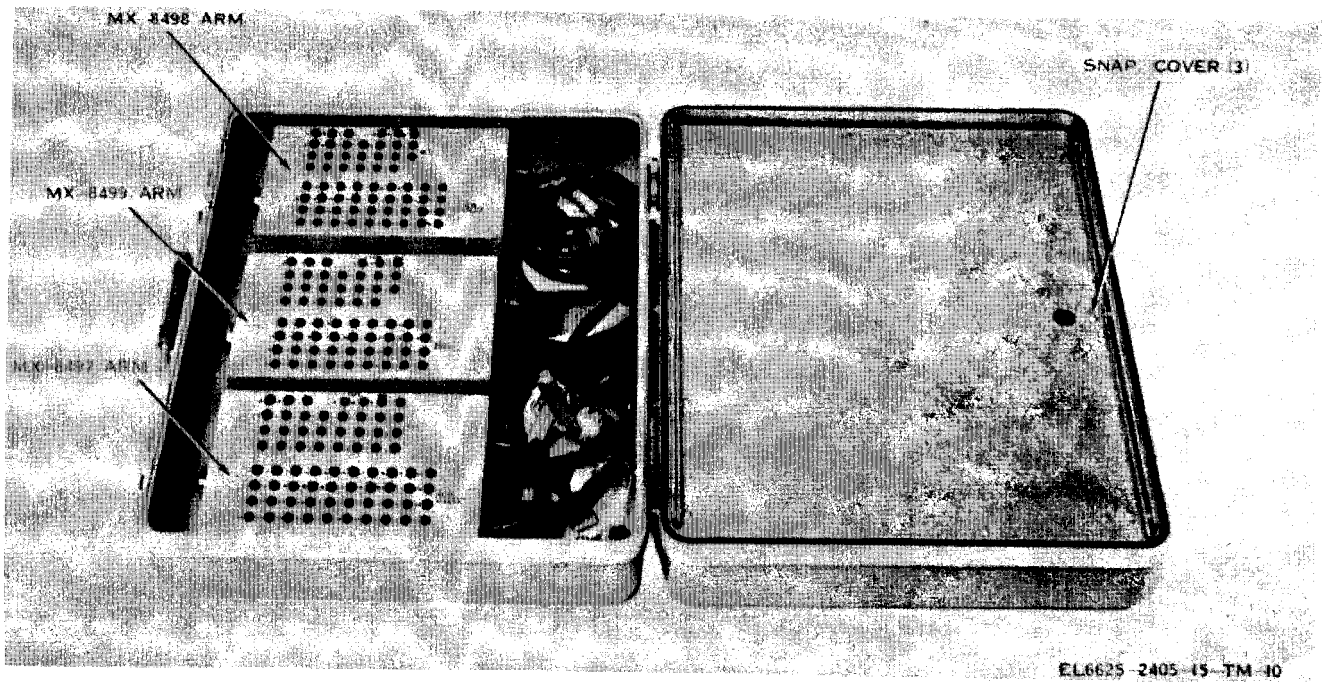
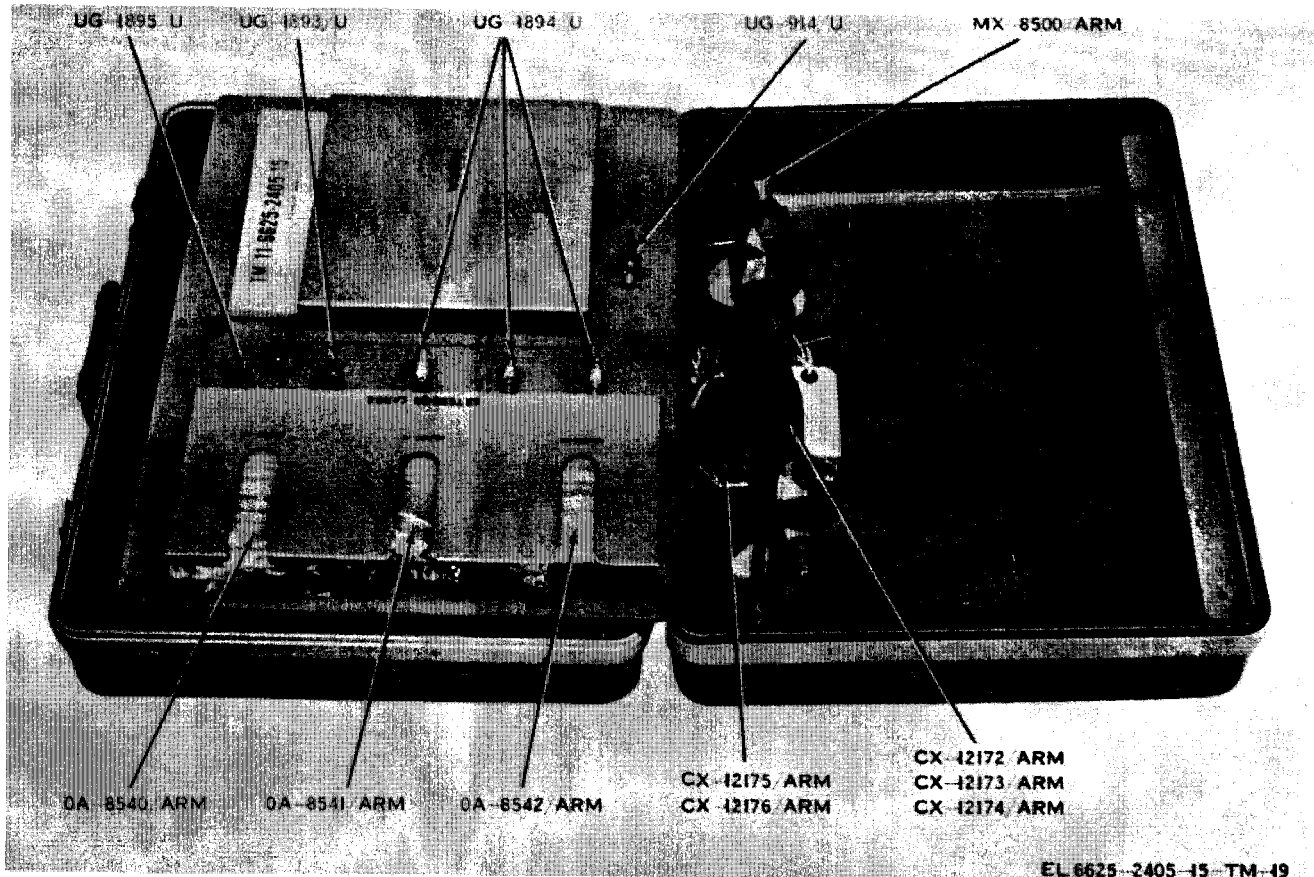
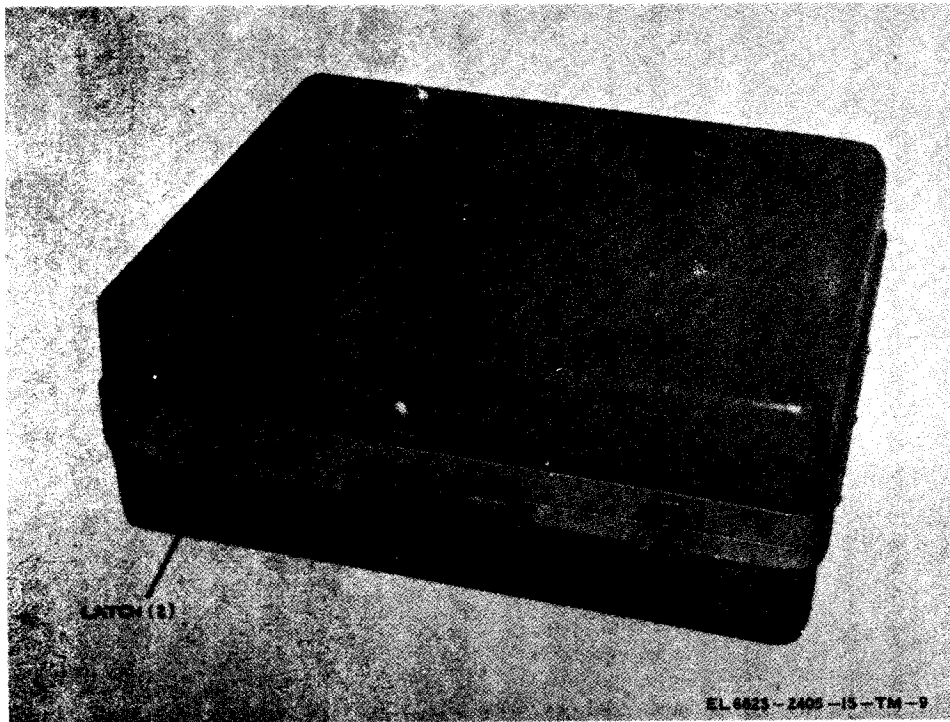
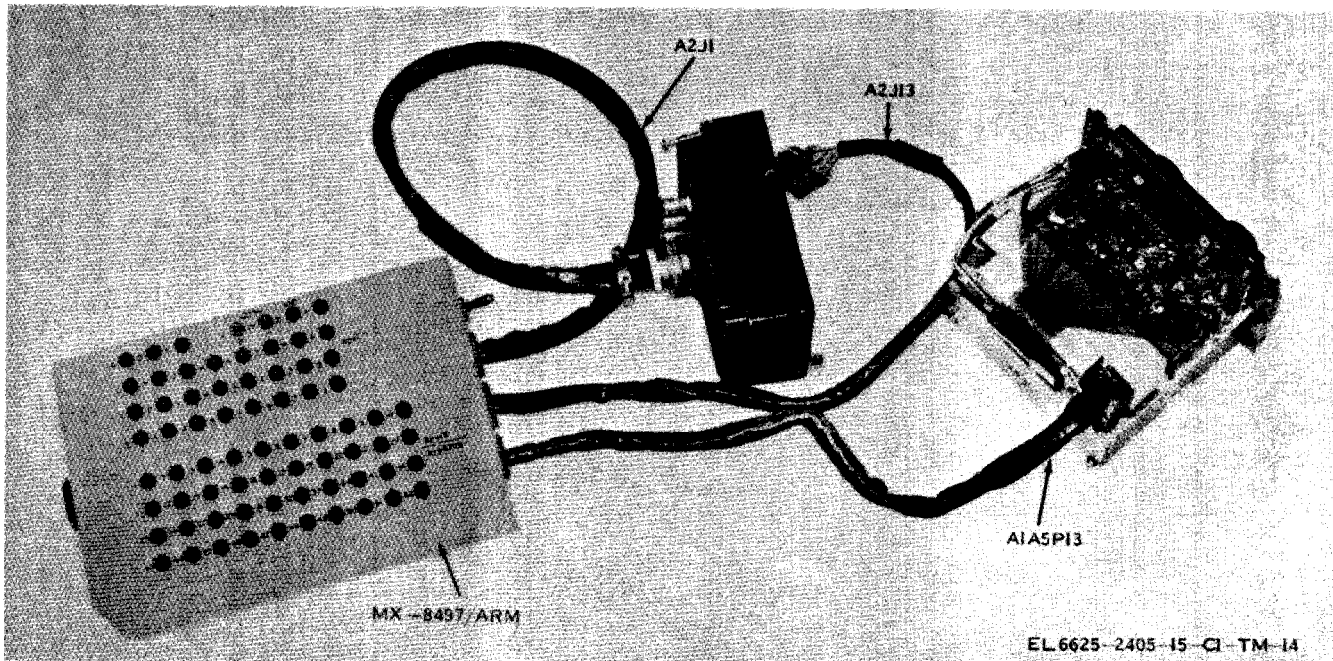

Figure 1-1. Maintenance accessory kit, miscellaneous parts section closed.
Figure 1-2. Maintenance accessory kit, miscellaneous parts section opened.
Figure 1-3. Case, Maintenance Accessory Kit CY-6774/ARM.
Figure 2-1. Breakout box connected to AN/ARC-114 sections.
This manual describes Maintenance Accessory Kit MK-1192/ARM (figs. 1-1 and 1-2) and includes installation, operating instructions, maintenance instructions, shipment, limited storage, and demolition to prevent enemy use. The manual provides instructions for operation, cleaning, inspection of equipment, and replacement of parts.
(figs. 1-1 End 1-2)
The maintenance accessory kit contains breakout boxes, extender cards, sets of extender cards, adapters, and a termination box with connecting cables, housed in a lightweight transit case (fig. 1-3). The breakout boxes are shown in place in figure 1-1; all other components are held in place under a cover in the other side of the case. Three captive snap fasteners secure the cover in place. On the rear of the cover (fig. 1-2), separate compartments are provided to hold the three sets of extender cards and the technical manual. Snaps secure the six adapters. The termination box and extender cables are held in place by straps in the floor of the compartment.
a. Case (fig. 1-3) There is a single handle on the lightweight fiberglass case. Two twist-release latches secure the two halves of the hinged case together.
c. Breakout boxes (figs. 2-1, 2-2, 2-3). The three breakout boxes as shown in figure 1-1 are similar in appearance. Each has a connector on one side of the box, three cables and a toggle switch on the other side, and two sets of test points on top.
(1) One set of test points (labeled A2J1) is used to make measurements in the power and control circuit lines to the radio set. The in-line test points also are connection points between the cable to the rear of the radio set and the lines from connector J1. Connector J1 accepts connection from Test Facilities Kit MK-994/AR which is used for testing the radio set. Each test point is lettered with the respective pin numbers of the jacks to correlate use with the radio set technical manuals. By use of the toggle switch, input current can be metered at the two red test points labeled D and D1.
(2) The other set of test points gives access to the connecting lines between the front and rear sections of the radio set under test. The test-point terminals are the connection points for the wires brought to the breakout box by the two cables to the radio set halves. Figures 2-1, 2-2, and 2-3 show the breakout boxes connected to disassembled radio sets. Each test point is lettered with the respective pin numbers of the jacks to correlate use with the radio set technical manuals.
f. Adapters (fig. 1-2). Four types of coaxial adapters are provided. The UG-1894/U (3 supplied) provides a tps-to-bnc connection, the UG-1895/U interconnects cables with Conhex connectors, the UG-914/U is a straight-through bnc connector adapter, and the UG-1893/U accepts Conhex connectors in a tee connection. Specific use of the connectors is explained in test setup instructions in the DS procedures sections of individual radio set maintenance manuals.
c. Connect the breakout box or extender cable between the front and rear radio set halves as shown in figures 2-1, 2-2, and 2-3 for Radio Sets AN/ARC-114, AN/ARC-115, and AN/ARC-116, respectively, with breakout boxes, or in figures 2-4, 2-5, and 2-6 for the same radio sets with extender cables.
a. For all dynamic tests, or for any voltage checks, applicable controls on Test Facilities Kit MK-994/AR must be set to on, the toggle switch on the breakout box must be set to ON, and the function selector switch on the radio set placed in any position except OFF. For resistance checks, either disconnect power to the MK-994/AR or set the toggle switch on the breakout box to OFF. This permits measurements on the input lines (jacks on breakout boxes labeled A2J1 ), on extender cards (b below), various accessible points on the radio set exposed front and rear sections, and at the front-rear section connectors (at the lower set of jacks on the breakout boxes (figs. 2-1, 2-2, and 2-3 )). In evaluating resistance or